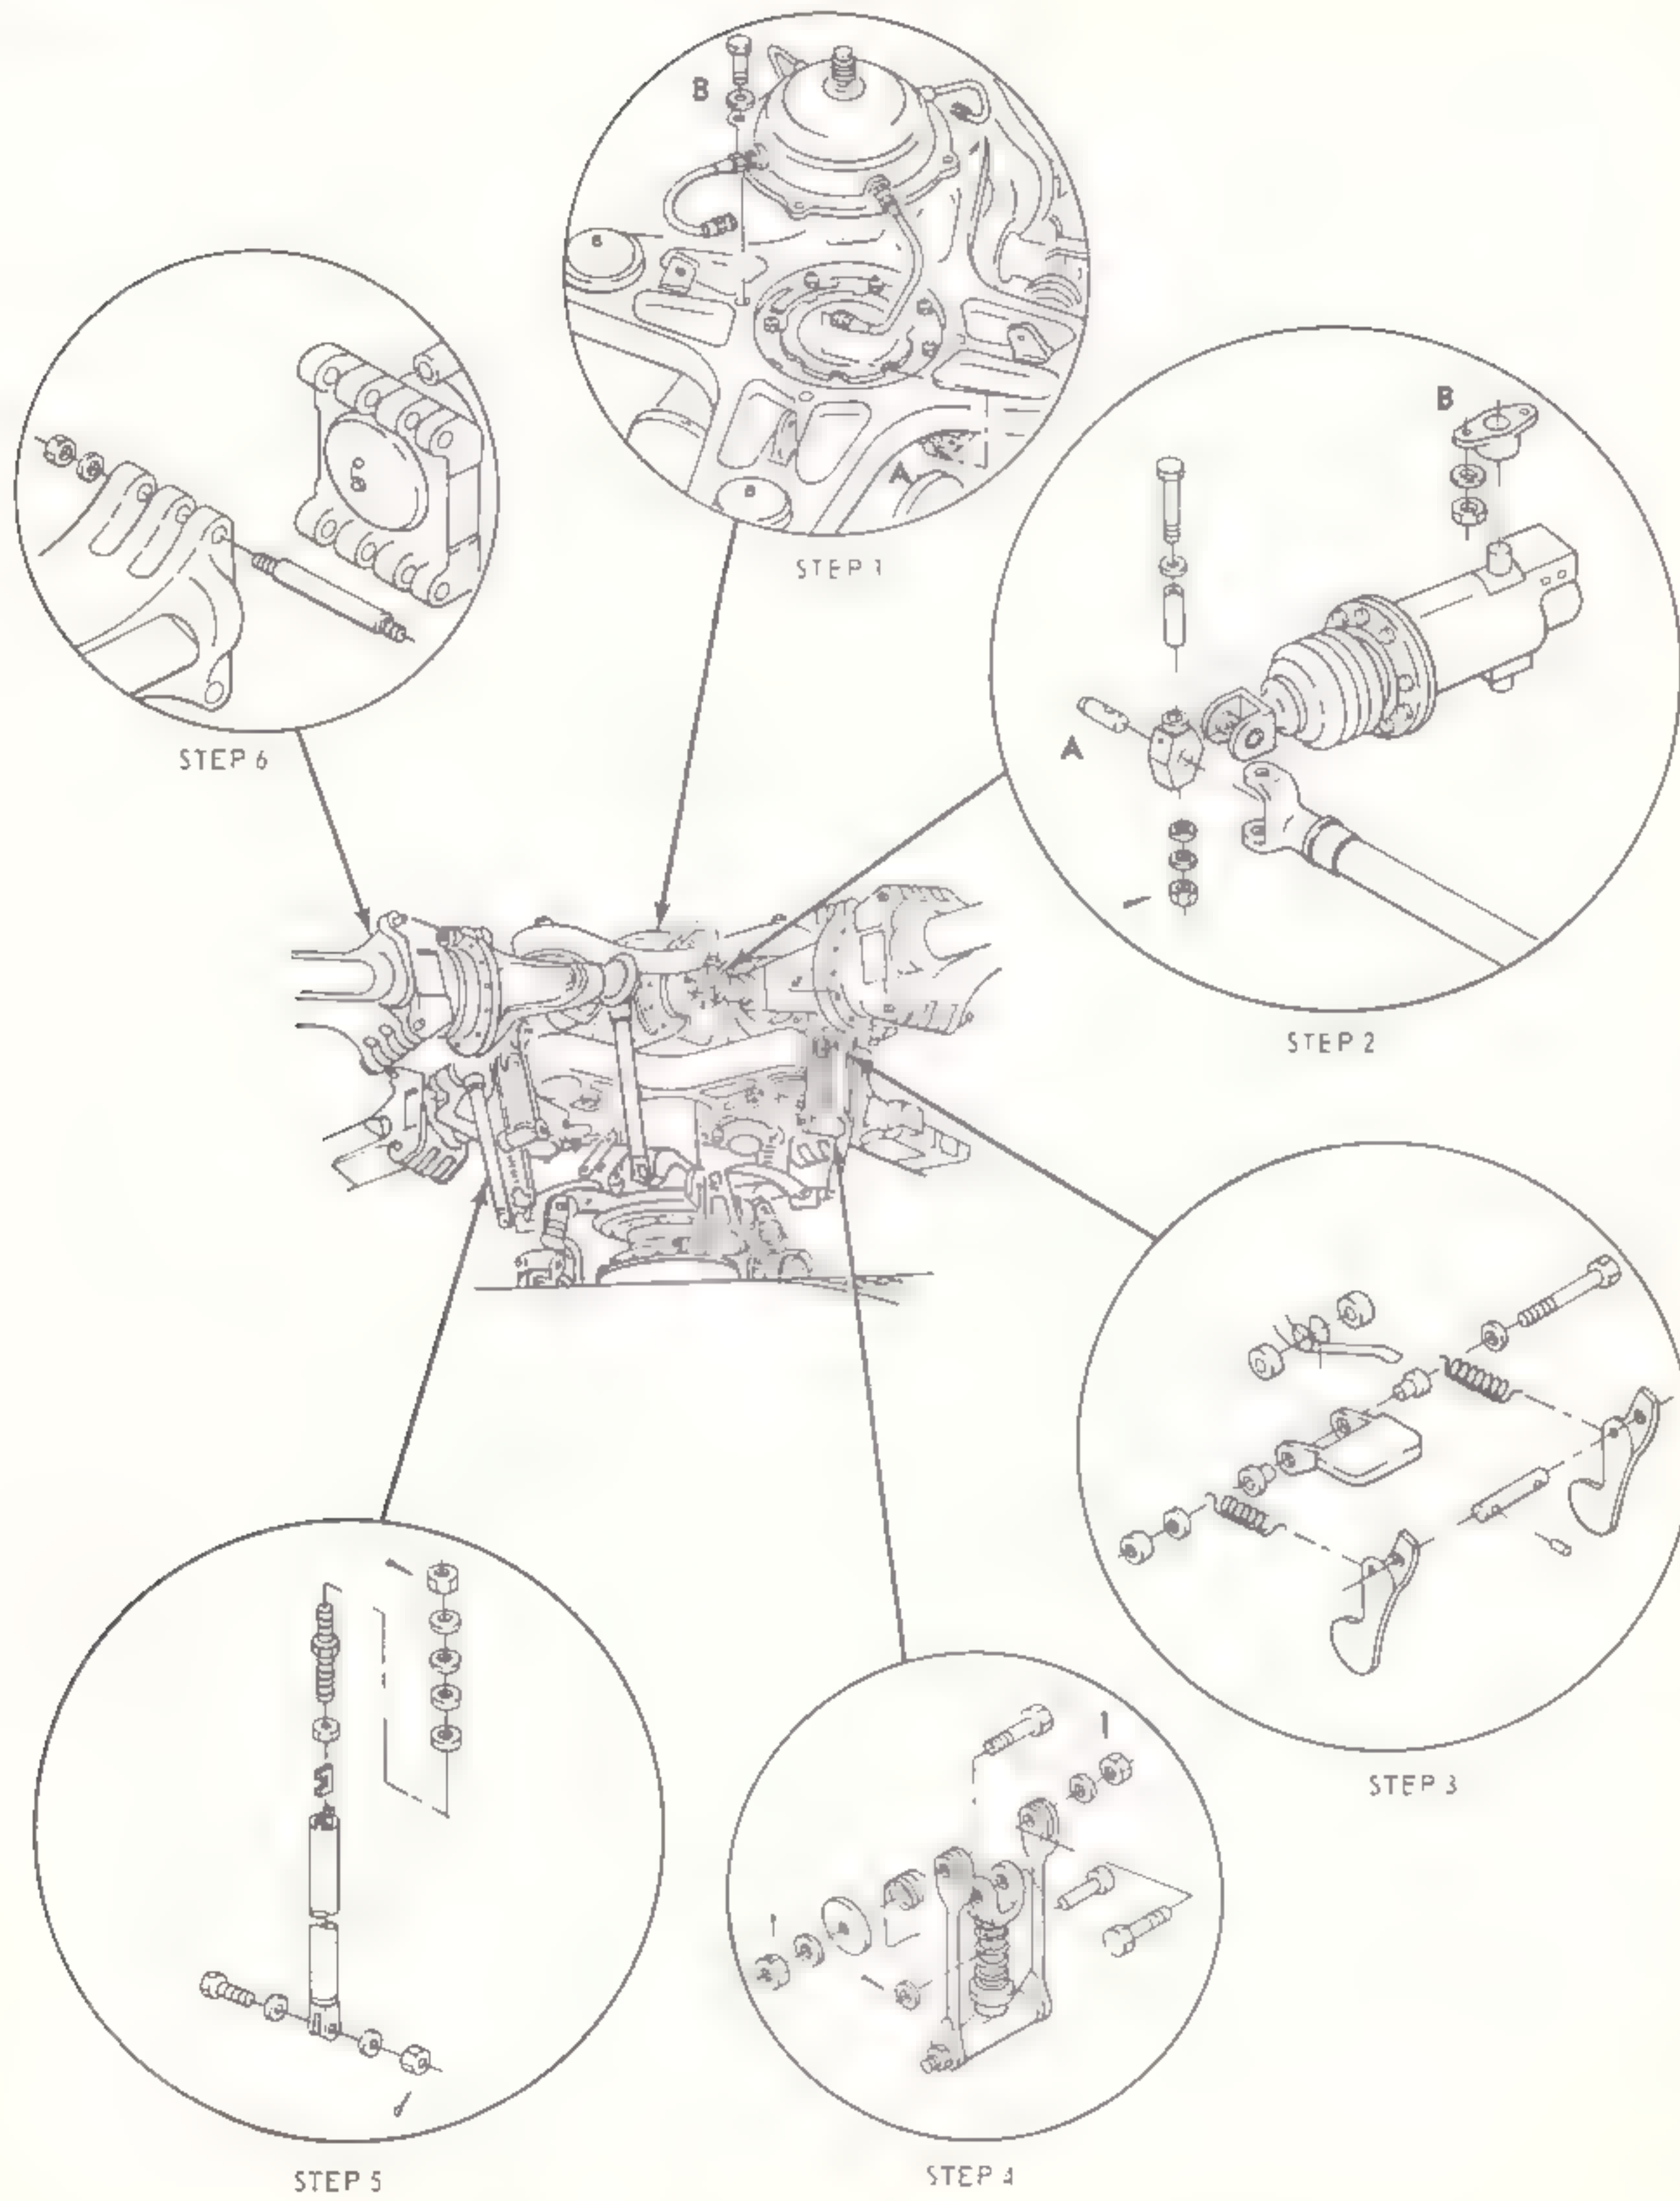

Figure 8-4. Main rotor head components removal
a. *Removal.* (1) With a suitable container under hose connections at main rotor damper, disconnect each hose assembly from each damper elbow (A-STEP 1, figure 8-4) and allow hydraulic fluid to drain into container.
(2) Remove bolts and washers attaching fluid tank assembly to main rotor head assembly; then remove tank with hose assemblies installed (B-STEP 1, figure 8-4).
(3) Remove hose assemblies from fluid tank assembly.
g. Installation. (1) Install hose assemblies on tank nipples.
(2) Place fluid tank assembly and hose assemblies in proper position on main rotor head assembly (B-STEP 1, figure 8-4) and attach with bolts and washers.
(3) Connect hose assemblies to corresponding damper elbows (A-STEP 1, figure 8-4).
(4) Fill fluid tank assembly with hydraulic fluid (item 3, table 1-8) to FULL mark.
a. Removal. (1) With a suitable container under hose connection at applicable main rotor damper, disconnect hose assembly from damper elbow (A-STEP 1, figure 8-4) and allow hydraulic fluid to drain into container.
(2) Remove cotter pin, bolt, washers, nut, and sleeve; then extend damper piston. Separate trunnion assembly from damper fork assembly by removing horizontal pin (A-STEP 2, figure 8-4).
(3) Unbolt upper and lower brackets from upper and lower plates of hub assembly and remove damper (B-STEP 2, figure 8-4). Remove bracket assemblies.
f. Installation. Install main rotor dampers as follows: (See figure 8-4.)
(1) Set bracket assemblies on damper, set damper in position between upper and lower plates (B-STEP 2, figure 8-4) and install bolt, two washers, and nut in each end of bracket. Tighten nuts with 270 to 330 inch-pounds torque.
(2) Assemble trunnion assembly in damper fork assembly and attach with horizontal pin (A-STEP 2, figure 8-4). Attach trunnion assembly to pin with bolt, washers, sleeve, and nut. Tighten nut to a torque of 150 to 200 inch-pounds and install cotter pin.
(3) If damper on right was removed to provide clearance, reinstall that damper.
(4) Install hub-to-upper plate bolt and tighten nut with 560 to 690 inch-pounds torque.
(5) Install fluid tank assembly. (Refer to paragraph 8-11g.)
(6) Fill fluid tank with hydraulic fluid (item 3, table 1-8).
(7) Cycle each damper four to five times by moving each main rotor blade back and forth horizontally in hunting motion to bleed any trapped air in dampers out through differential check valve.
a. Removal. (1) Remove cotter pin, bolt, washers, nut, and sleeve.
(2) Extend damper piston and separate trunnion assembly from damper fork assembly by removing horizontal pin (A-STEP 2, figure 8-4).
b. Cleaning. Clean trunnion assembly and connecting parts with solvent (item 4, table 1-8). Wipe each part dry using a clean, dry cloth.
c. Inspection. (1) Check diameter of reamed holes in fork ends of horizontal pin, part No. S1610-26060 or -1. Pin should be replaced if diameter is worn beyond 0.4395 inch.